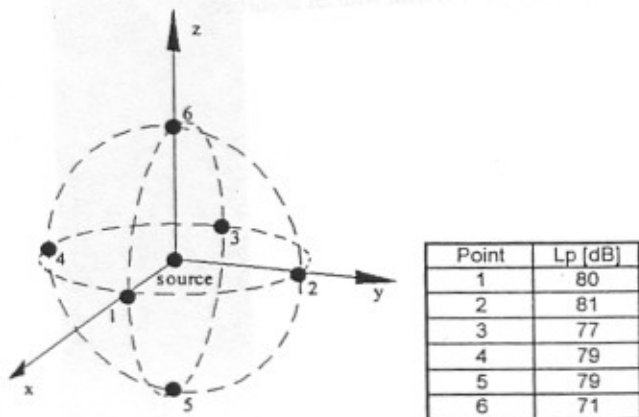

Figure 10.1 Locations of Sound Pressure Level measurements.
- (4) 10. a) Sound power and sound pressure calculations are often carried out assuming a free field. A free field can be verified if a 6 dB drop in sound pressure level is measured for each doubling of distance from a source. Show mathematically why this is the case.
- (6) b) Sound pressure measurements were taken at points which define a sphere (radius is 2m) about a source as shown in Figure 10.1. The measurements were taken at a center frequency known to dominate the sound power spectrum for the machine. Given the following values for the sound pressure level determine the mean sound pressure level, the sound power level, and plot the directivity index in the x-y and x-z planes for this center frequency.